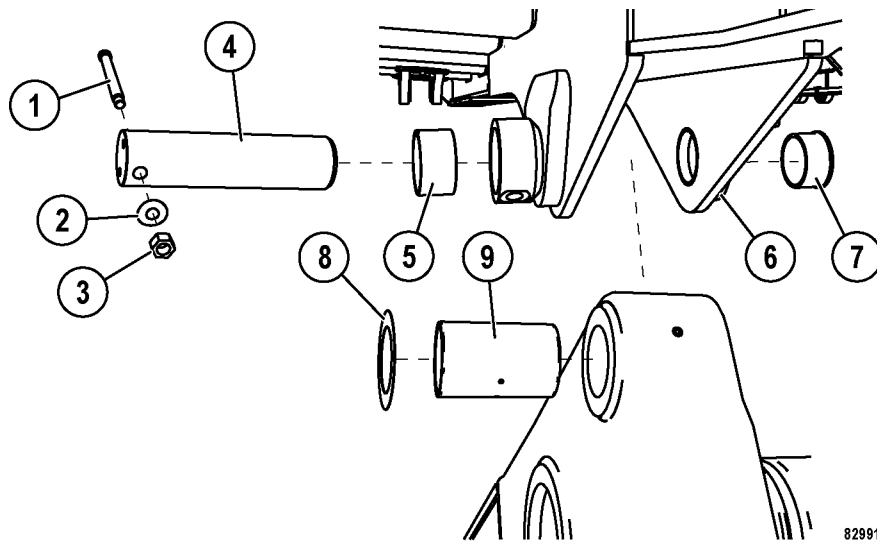

FIGURE 3-3. DUMP BODY PIVOT PIN
5. Remove nut (3, Figure 3-3), flat washer (2) and shoulder bolt (1) from both body pivots.
7. Remove body pivot pin (4) far enough to allow shims (8) to drop out. Complete removal of pins is not necessary unless new pins are being installed.
2. Install shims (8, Figure 3-3) in both body pivots, as required, to fill the outside gaps and center the body on the frame pivot.